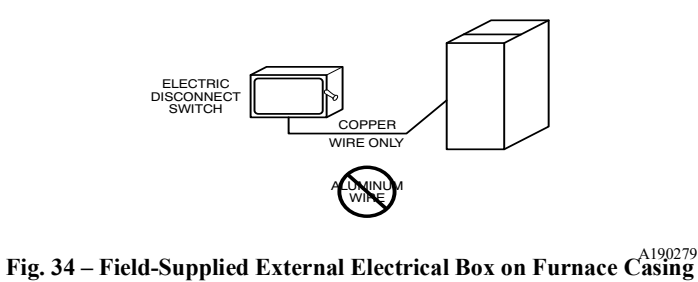

Fig. 34 – Field-Supplied External Electrical Box on Furnace Casing A190279
Do not connect aluminum wire between disconnect switch and furnace. Use only copper wire. See Fig. 34.
1. Drill two (2) 1/8-in. (3 mm) pilot holes through the dimples in the furnace casing near the 7/8-in. knock-out on the side of the casing. Do not remove the knock-out in the side of the casing.
9. Connect field power and neutral leads to furnace power leads inside the external electrical box as shown in Fig. 34.